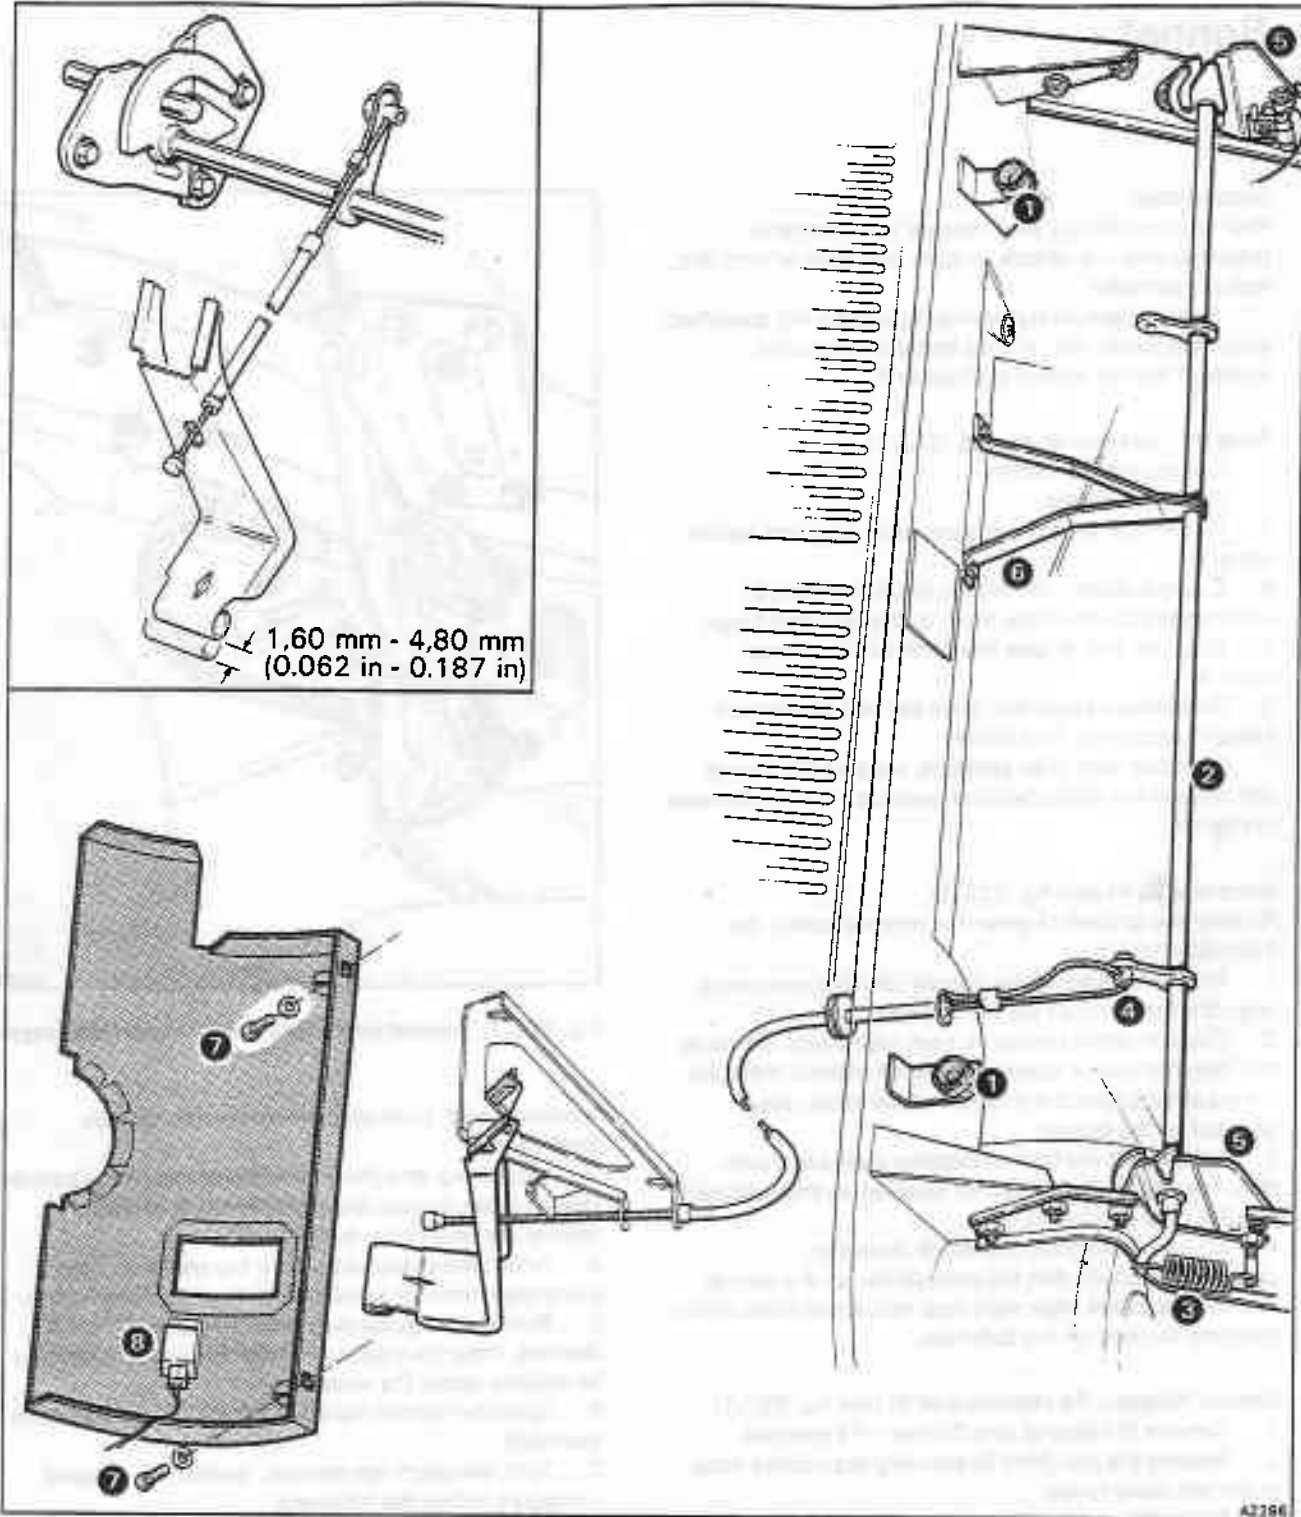

Fig. S22-2 Bonnet release mechanism
3. Ensure that the bonnet locating pegs align with their respective rubber bushes situated on the bulkhead (see fig. S22-2, item 1).
(see fig. S22-2)
Bonnet release cable – To renew (see fig. S22-2)